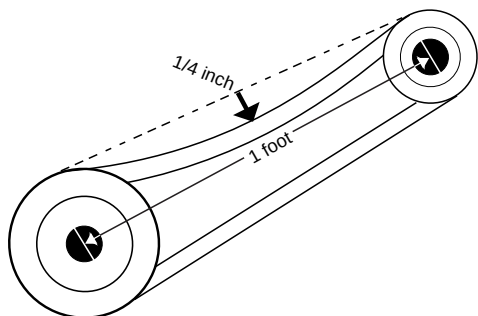

Figure 1
b. Adjust the motor plate until proper tension is reached. For proper tension, a deflection of approximately 1/4" per foot of center distance should be obtained by firmly pressing the belt. Refer to Figure 1.